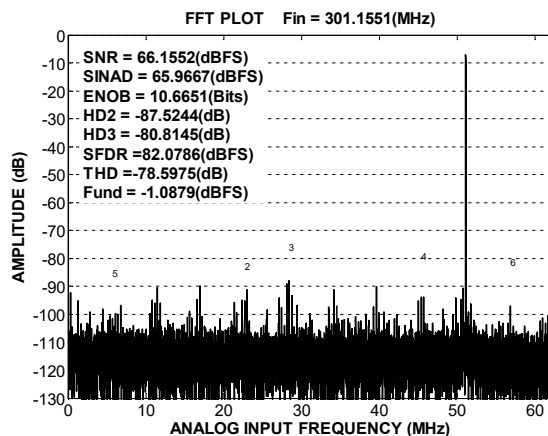
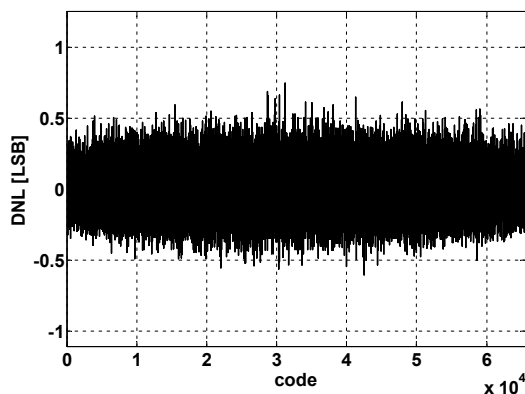

Figure10.Single-Tone32K($f_{IN}=301\text{MHz}$, $f_S=125\text{MSPS}$)
Figure11.Differential Nonlinearity (DNL)($f_{IN}=9.7\text{MHz}$, $f_S=125\text{MSPS}$)
Figure 10 and Figure 11 show two preferred methods for clocking the CBM96AD56-125 (at clock rates up to 1 GHz prior to internal clock divider). A low jitter clock source is converted from a single-ended signal to a differential signal using either a radio frequency (RF) transformer or an RF balun.